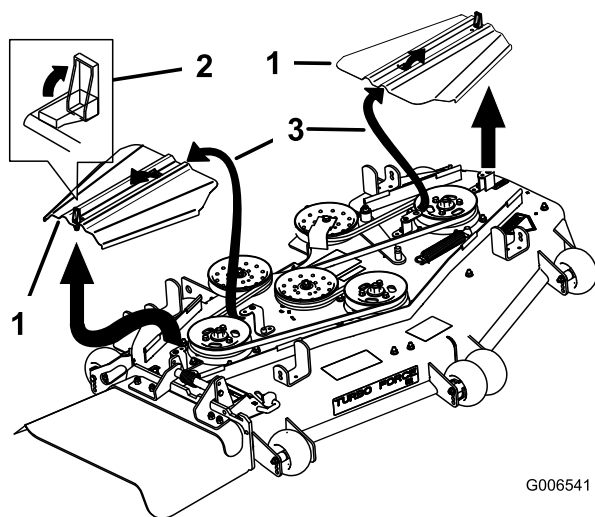

Figure 67
3. Remove the belt covers (Figure 67).